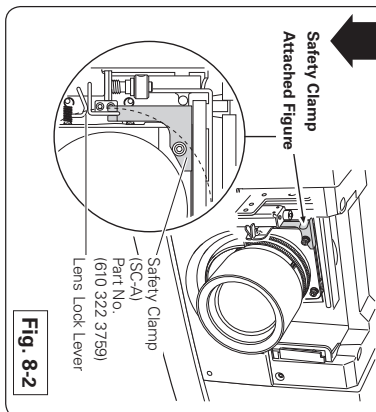

Fig. 8-2
- 3 Place the Safety Clamp in the location of the removed screw. Make sure that the Safety Clamp is mounted to hold the Lens Lock Lever in the lock position. Check the placement of the Safety Clamp. (See Fig. 8-2)